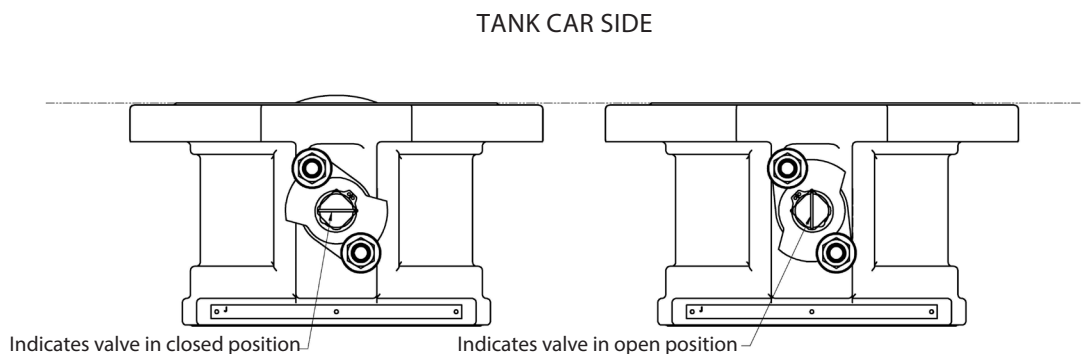

Figure 2
Remove the flow port protectors and check that the valve is clean inside. Clean valve if necessary. The machined line of the top of the stem (5), is a visual indicator of the ball (3) port position and flow direction. **Figure 2** shows the valve installed on the tankcar. Line horizontal indicates the closed position. Line vertical indicates the open position. This applied to both Standard and FO operation.